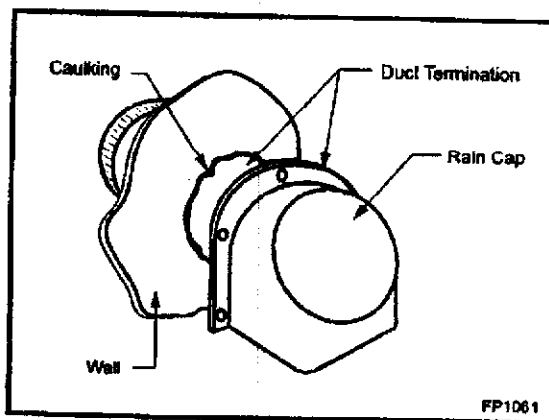

Fig. 3 Caulk and install duct termination/rain cap in place.
2. Attach the inlet collar with four (4) #10 screws to the side or bottom of the fireplace. Slide the duct over the collar and attach the duct to the collar using the plastic tie straps or three (3) screws (screws not provided). Continue attaching the ducting together using three (3) screws at each joint until you have installed sufficient duct to arrive at your duct termination location.
3. At the termination end, install the duct termination. This should be installed from the outside of the home. Cut a hole in the desired location approximately 4½" in diameter, caulk around the hole, and slide the termination through the opening from outside the home. The termination/rain cap should be caulked around its perimeter to assure a tight seal. The rain cap opening should be positioned downward. (Fig. 3)